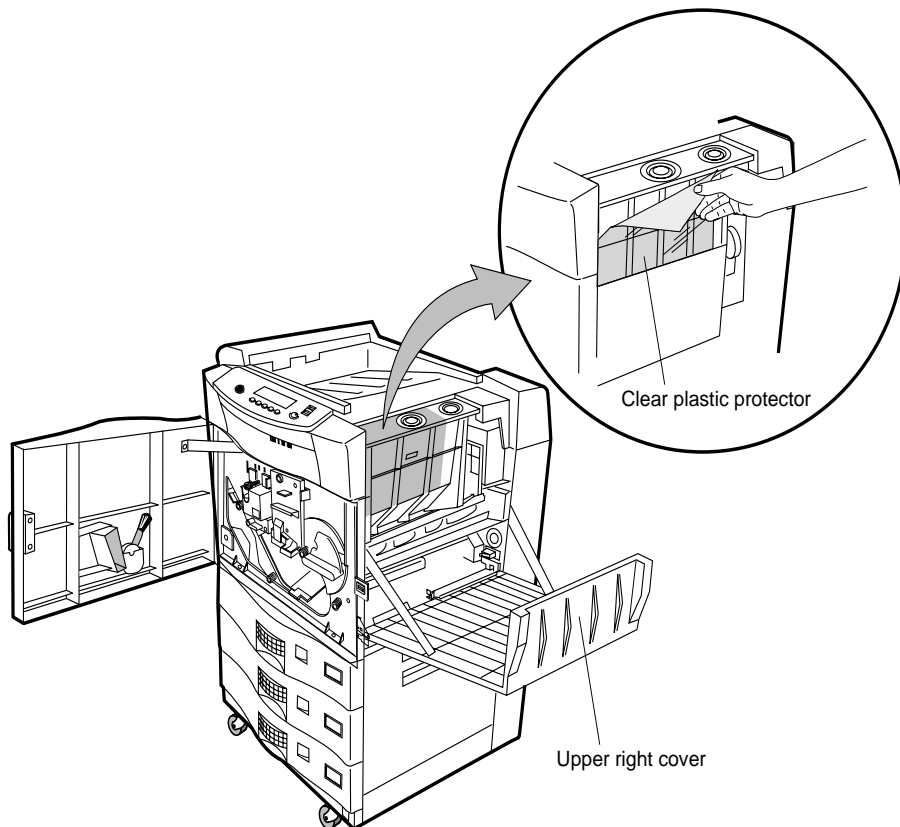

Figure 2-46 Removing Plastic Protective Cover
4. Slowly and firmly lift up then pull down and out at an angle to remove plastic protective cover. See Figure 2-46.